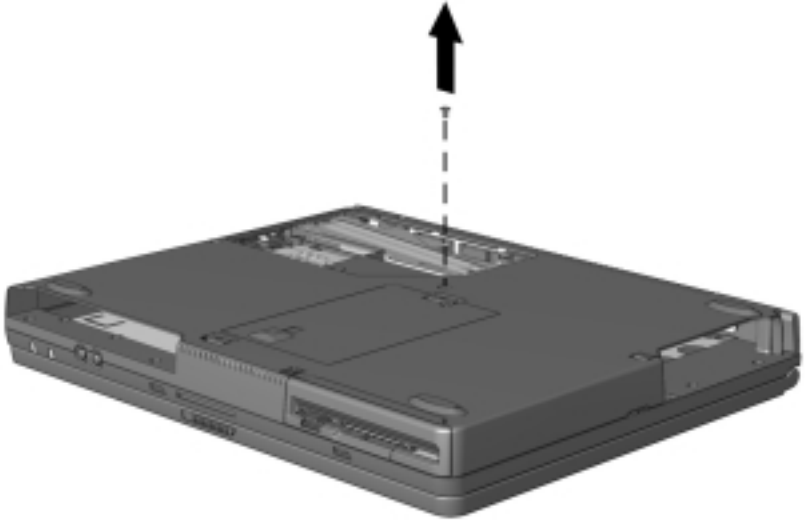

Figure 5-7. Removing the Keyboard Screw
3. Remove the screw that secures the keyboard (Figure 5-7).